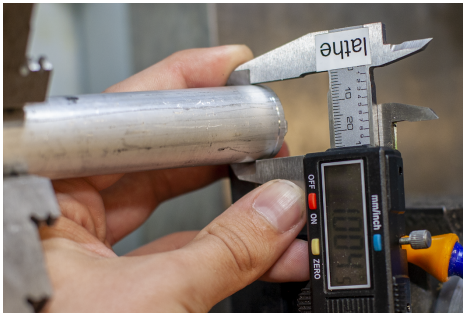

FIGURE 4.10: MEASURING THE DIAMETER OF THE STOCK.
- Grab the digital calipers, zero them in imperial mode, and measure the diameter of the stock as close as is possible to the point where the tool is touching, Figure 4.10.